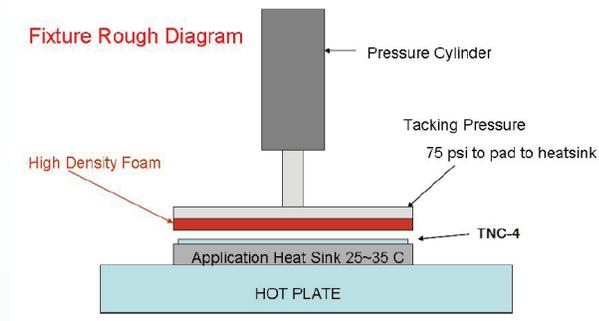

FIG. 4
3. Apply 75 psi pressures for 10 seconds at 25-35°C, using pressure pads/foams to apply pressure uniformly on both sides (Fig. 4). Then Peel off the other liner (Fig. 5). component on the top of TNC-4/heat sink assembly (Fig. 6). Apply 75~85psi over 15 seconds, use pressure pads/foams to apply pressure uniformly on both sides (Fig. 7).